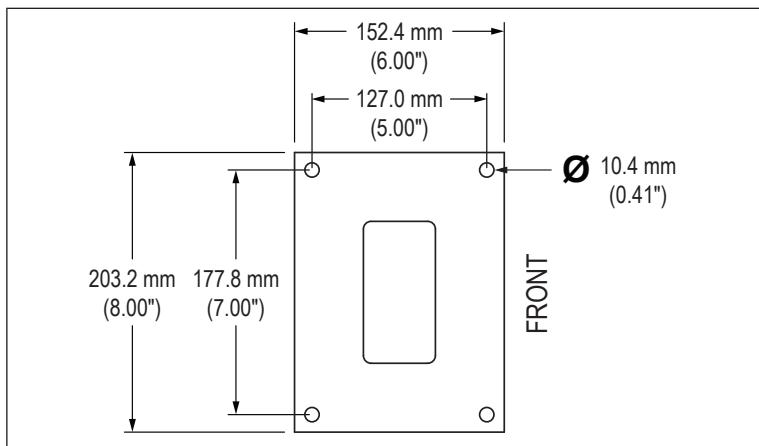

FIGURE 1 – PEDESTAL BASE PLATE
1. Refer to Figure 1. Prepare the mounting surface for the pedestal installation.